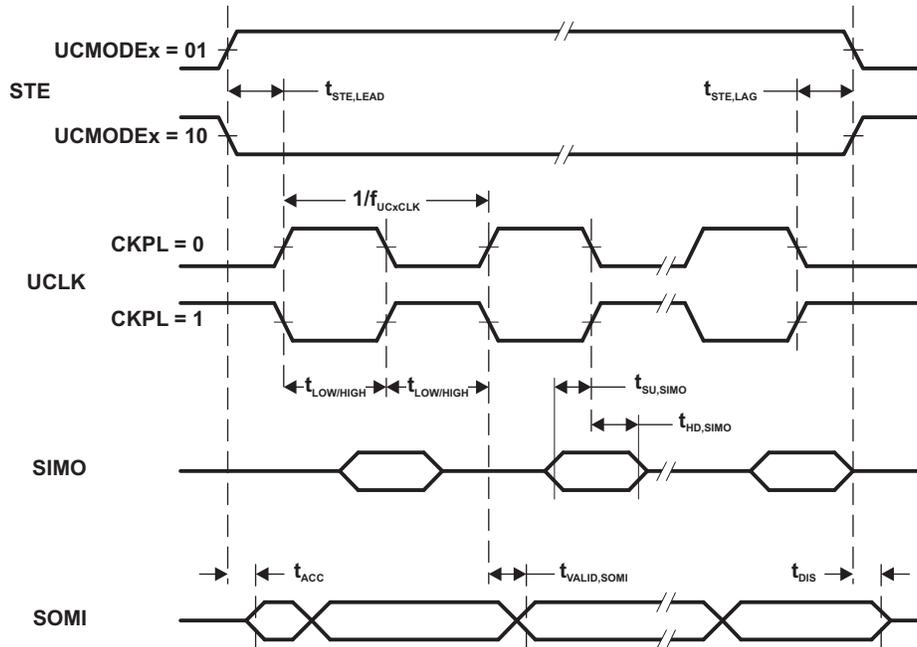
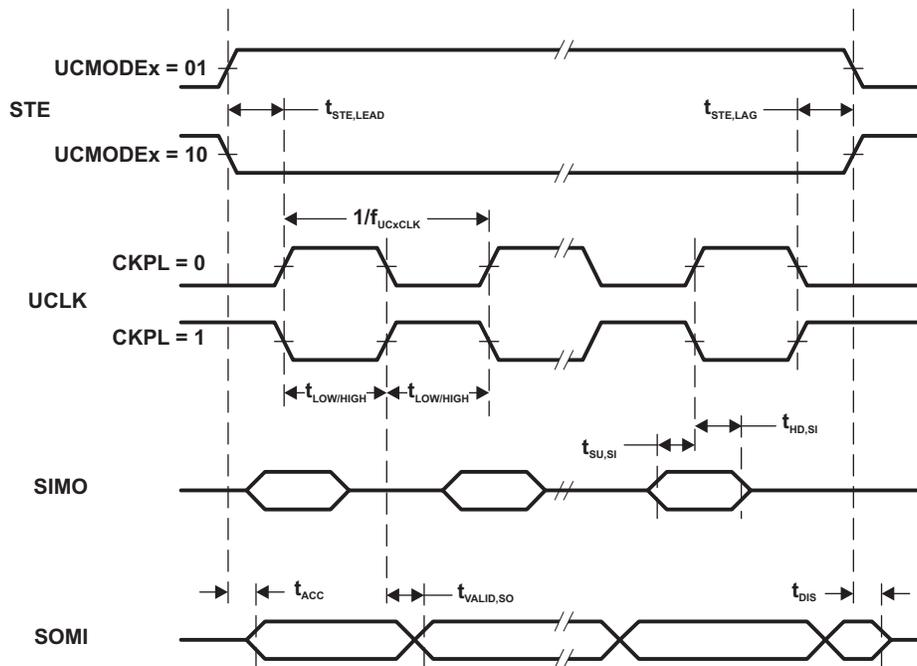

Figure 8. SPI Slave Mode, CKPH = 0
Figure 9. SPI Slave Mode, CKPH = 1
- (2) Specifies the time to drive the next valid data to the SOMI output after the output changing UCLK clock edge. See the timing diagrams in Figure 8 and Figure 9.
- (3) Specifies how long data on the SOMI output is valid after the output changing UCLK clock edge. See the timing diagrams in Figure 8 and Figure 9.